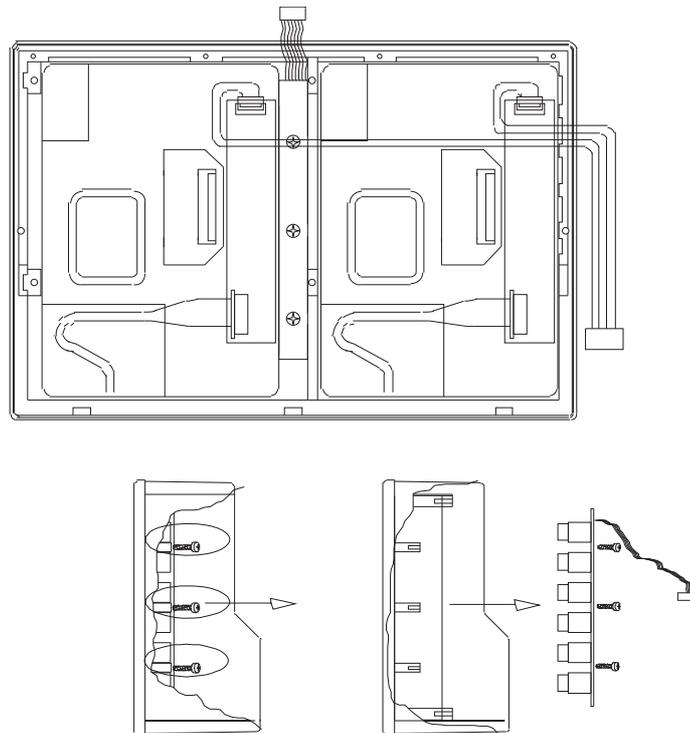

Fig. E 8-16: Removal of switch pcb
8. Remove the fixing screws of the switch pcb and take board out of the frame (Fig. E 8-16).